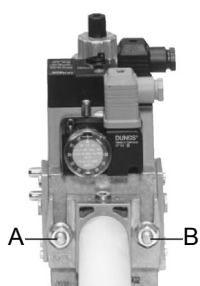
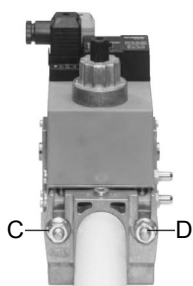
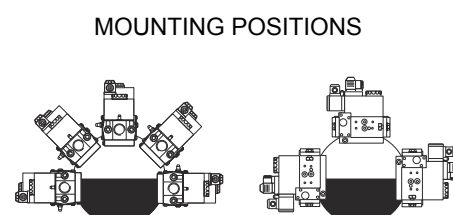

Fig. 4
Fig. 5
Fig. 7
3. tighten screws A, B, C and D (Fig. 4 - Fig. 5), according to the mounting positions (Fig. 7);